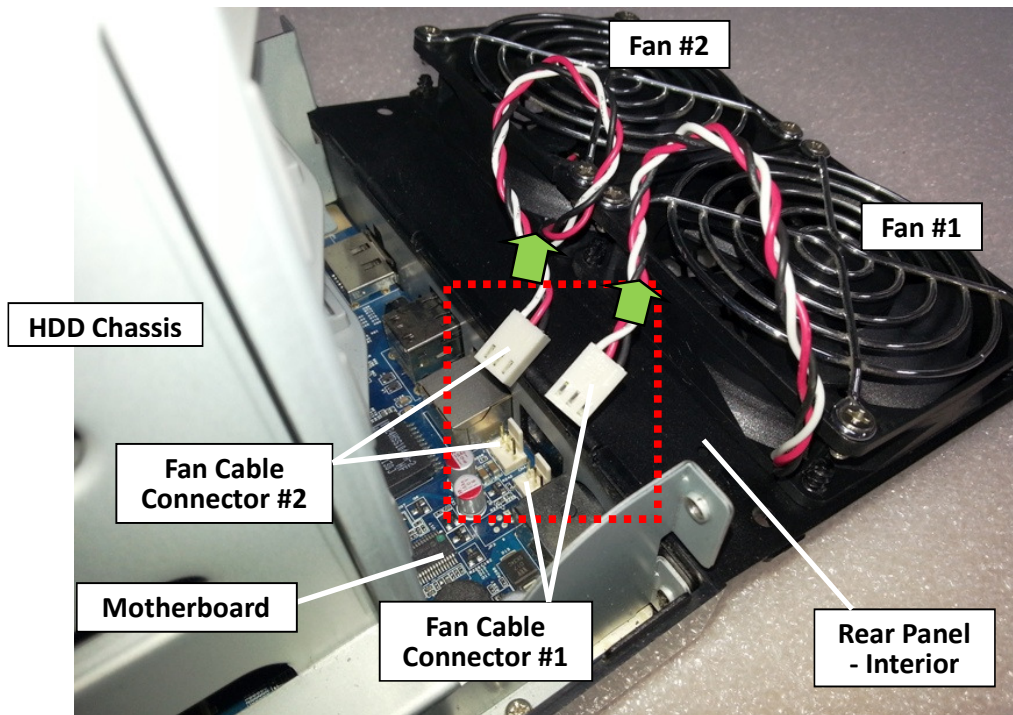

Fig. 49
3.1.5 Unplug the two (2) fan cable connectors (Marked by the red rectangle). (Fig. 49)